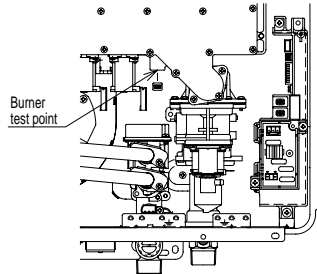

Fig. 2
5. Attach pressure gauge to burner test point, located on the gas control. (Fig.2)